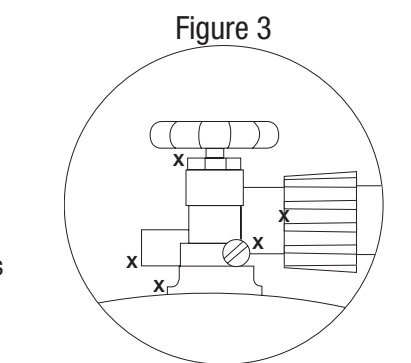

Figure 3
4. Spoon leak check solution at all "X" locations (Figure 3)